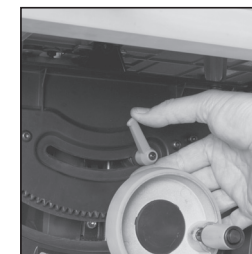

FIG. 13
- Loosen the tilt locking screw (Fig. 13) by turning the tilt locking lever.